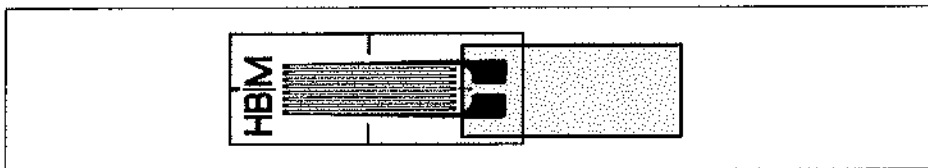

Fig. 5.3 Hinge-like connection for SG without lead
► In SG without leads, create a hinge-like connection as shown in Fig. 5.3 (without additional solder terminals).